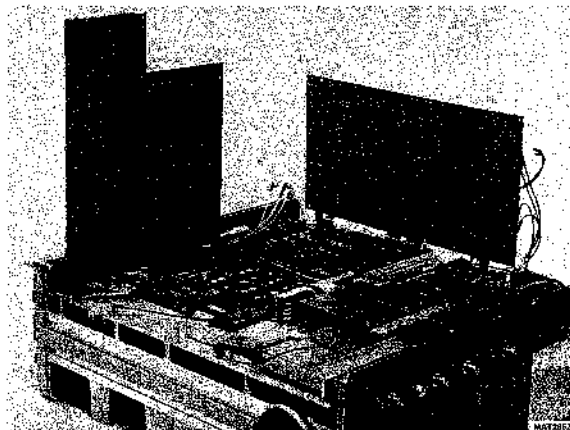

Figure 10.3 Access to the management unit and the CCD logic unit.
To get access to the management unit A25 and the CCD logic unit A26 the P-CCD unit A33 and the vertical signal unit A32 can be turned up as shown in figure 10.3.
- Turn the unit up and place it on the two supports as shown in figure 10.3.